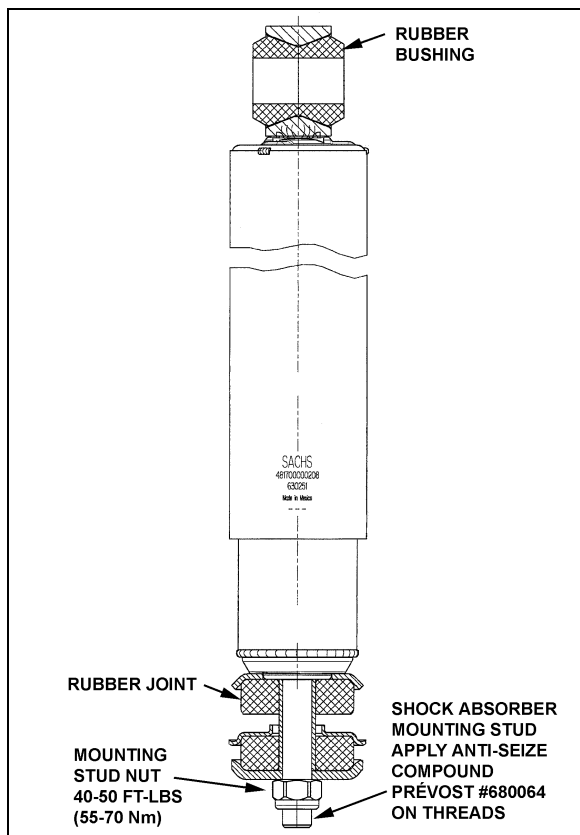

FIGURE 33: SHOCK ABSORBER
2. Remove the nut and washer from shock absorber mounting pin (upper side), taking care to identify the inner and outer washers to ease reinstallation. Refer to figure 33 for details.
3. Place the inner washer on shock absorber pin (Figure 33).
5. Install the shock absorber as shown in figure 33 with the mounting stud protruding through the hole in the mounting bracket and the shock absorber eyes over the mounting pins. Install the outer washer.